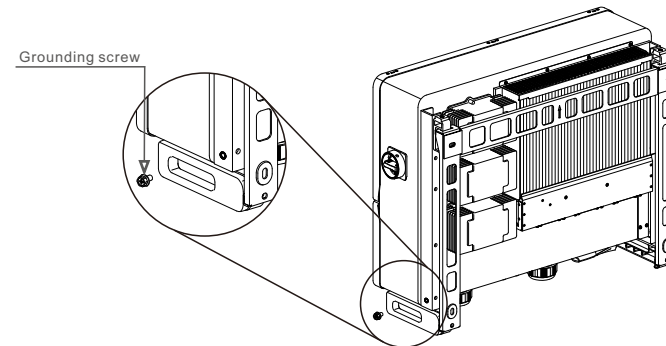

Figure 3.17 Fixed cable
- 6) Connect the grounding cable to the grounding point on the heat sink, and tighten the grounding screw, Torque is 7.4-14.7 ft.lbs(see figure 3.17).